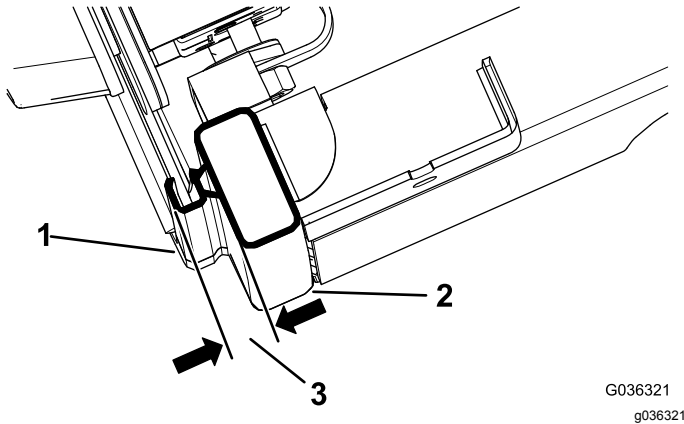

Figure 11
3. Close the door completely and measure the height of the bubble seal to the sealing surface of the cab rail, and ensure that the measurement is 1.9 to 2.2 cm (3/4 to 7/8 inch) as shown in Figure 11.
4. Tighten the jam nut once the latch pin reaches 1.9 to 2.2 cm (3/4 to 7/8 inch) as shown in Figure 11.